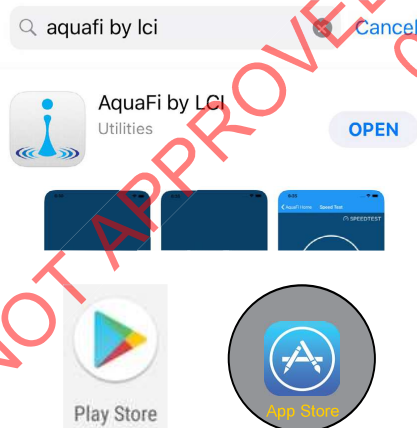

Fig.5
1. Download the AquaFi app (Fig.5) from either Apple's App Store (iOS) or Google Play (Android).